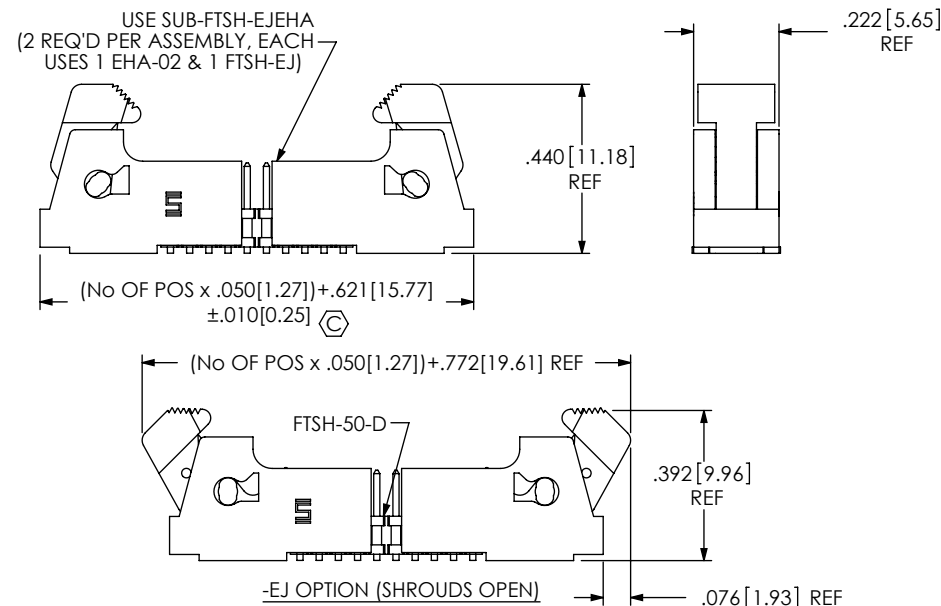

FIG 3
- A: ALIGNMENT PIN (MOLDED OR STAKED; SEE FIG 3, SHT 2) (MOLDED: 3 POS MIN; STAKED: 6 POS MIN) (SAMTEC DISCRETION ON WHICH -A PIN USED) (MUST USE FTSH-50-D)